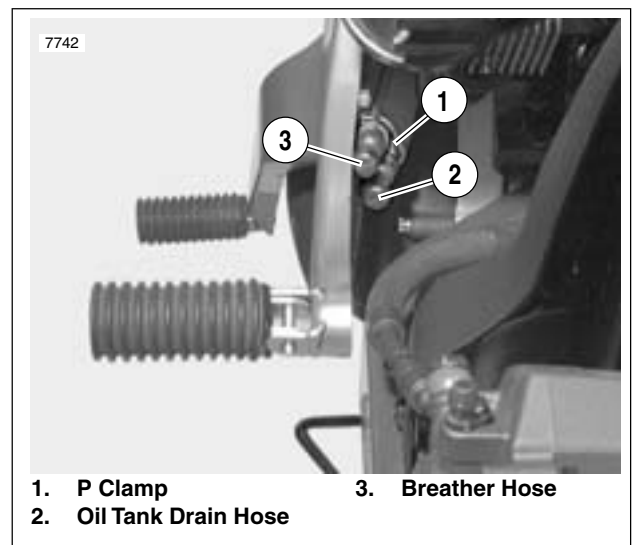

Figure 2-95. Left Side Footpeg Support Bracket
2. See Figure 2-95. On left side remove oil tank drain hose, breather drain hose, p-clamp and fastener.
3. See Figure 2-95. On left side install p-clamp with oil tank drain hose and breather hose.